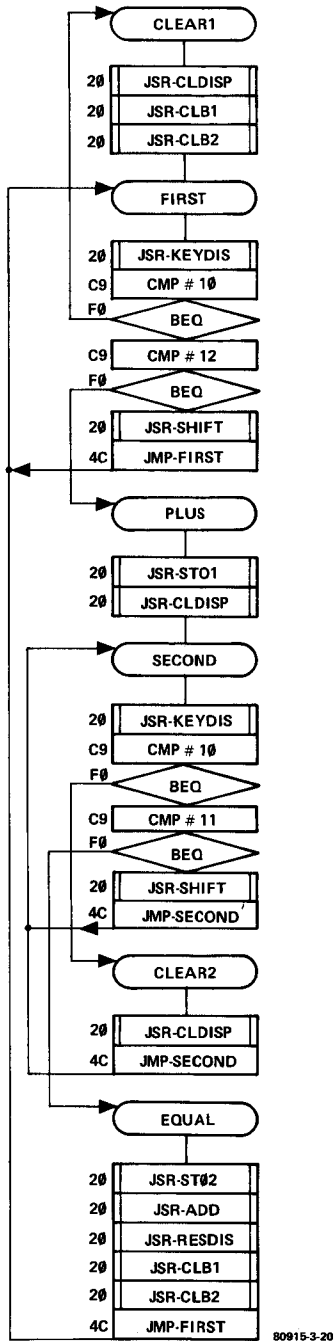

Figure 20. The main program for the addition of two 6-digit decimal numbers.
Figure 20 shows the flow chart for the addition of two decimal numbers. It may appear rather complicated at first sight, but it can be broken down into the nine subroutines given in figure 21.
The program (figure 20) starts with CLEAR1. This part of the program simply enters 00000000 into the display and number buffers (see also figures 21d, 21e and 21f). In the next section (FIRST) the program jumps to the subroutine KEYDIS (figure 21c), which uses the SCANDS and GETKEY routines contained in the monitor program. We are already familiar with these routines: the keyboard scan and the software debouncer. If a key is being pressed the routine GETKEY will determine which one it is and its value will be held in the accumulator upon returning from KEYDIS. A test is then carried out via the CMP # 10 instruction to see whether the CLEAR (AD) key was pressed and if so, the program will jump back to CLEAR1. If the CLEAR key was not depressed a further test is carried out (CMP # 12) to see whether it was the '+' key. If not, we